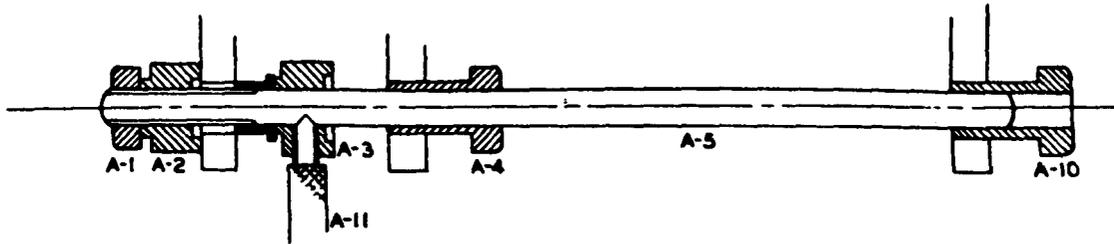
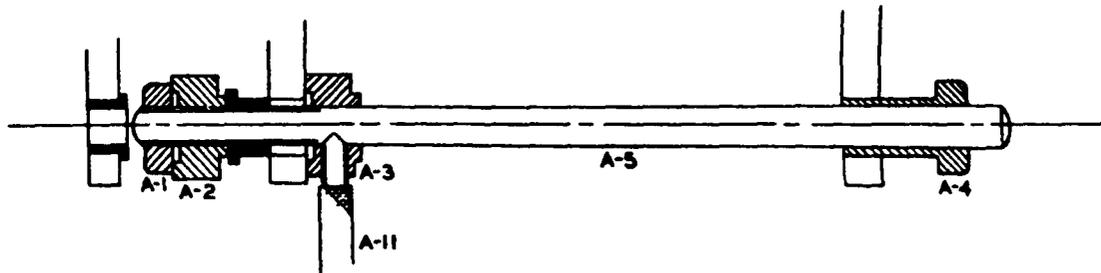
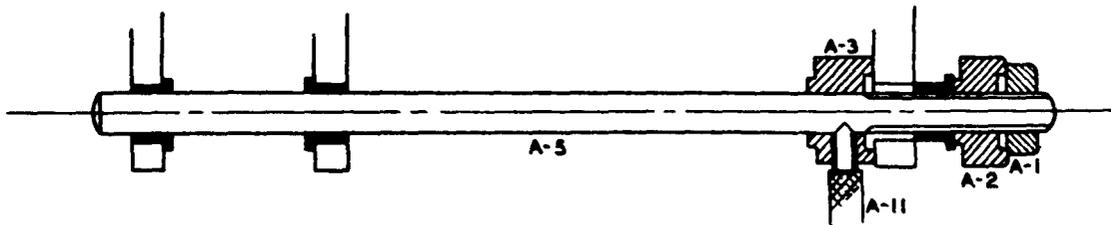

Fig. 16
Fig. 17
Fig. 18
(3) To insert new cam shaft bearings use the tool shown in Figs. 16, 17 and 18. Part A-11 is inserted into part A-3 and tightened so that its point goes into the conical spot in A-5. Install the left-hand bearing first, using
the tool assembly shown in Fig. 16. Make certain that the oil hole and the set screw hole in the bearing are lined up for their corresponding holes in the casting so that when the bearing is finally in place the holes in the bearing will coincide with those in the casting. Draw the new bearing into place by tightening nut A-1. In the same manner install the middle bearing as shown in Fig. 17 using the tool assembled as shown in the figure. Install the right hand bearing using the tool assembled as shown in Fig. 18. Insert the bearing holding screws. By means of the line reamer AR-9, line ream the new bearings to insure a running fit for cam shaft. Make sure that all metal particles from the reaming are cleaned out and that none have lodged in the oil holes.